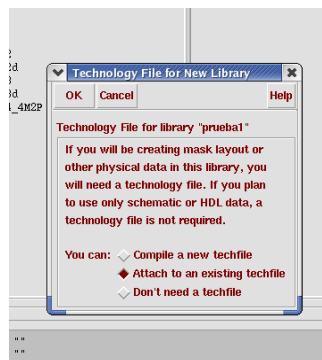

Figure 4. Attach technology library window.
- d) A new window will open as shown in Fig. 4, choose the **Attach to an existing techfile** option to link the new library to the proper technology.